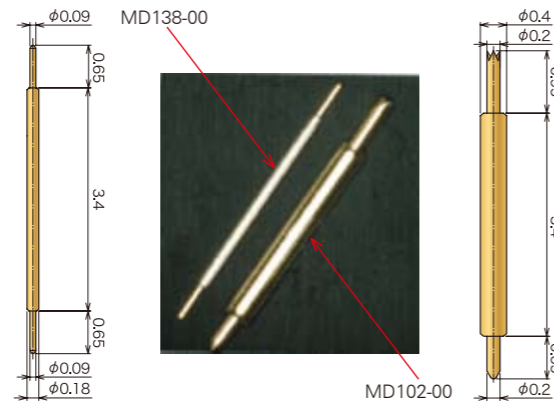

Fig. 2 Coaxial core probe.
1.0mm (MD102-00) : diameters Barrel 0.40mm Plunger 0.20mm, 0.5mm (MD138-00) : diameters Barrel 0.18mm, Plunger 0.18mm are used. (Fig. 2) And deferent dielectric are used for plunger portion and barrel portion individually.